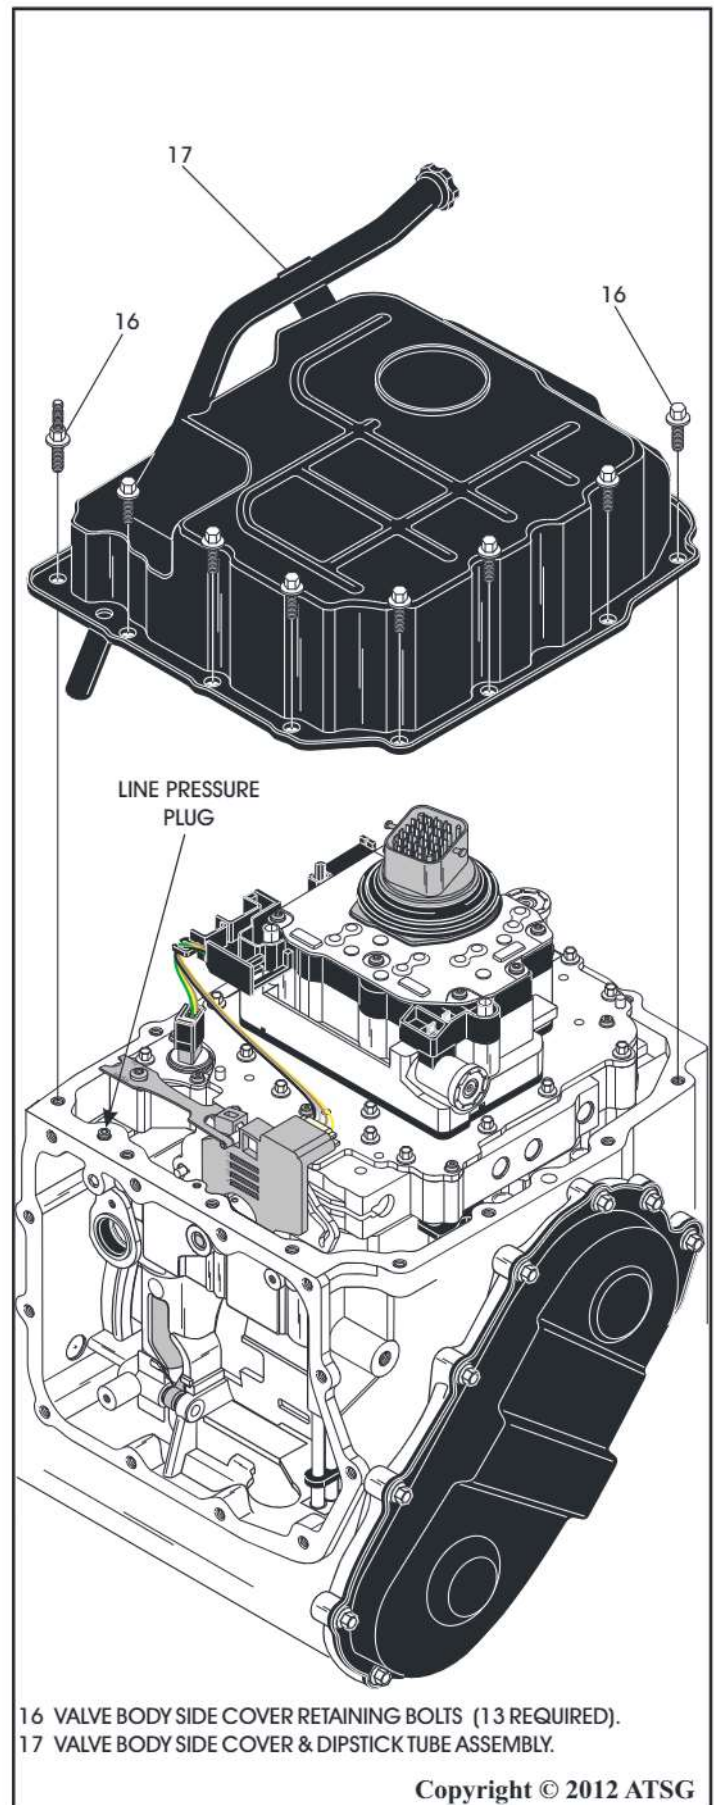

Figure 47
15. Remove the 13 valve body side cover bolts, as shown in Figure 47, using 8 mm socket on the regular style bolts and 10 mm on the stud style bolts.
16. Remove the valve body side cover from the transaxle, as shown in Figure 47.